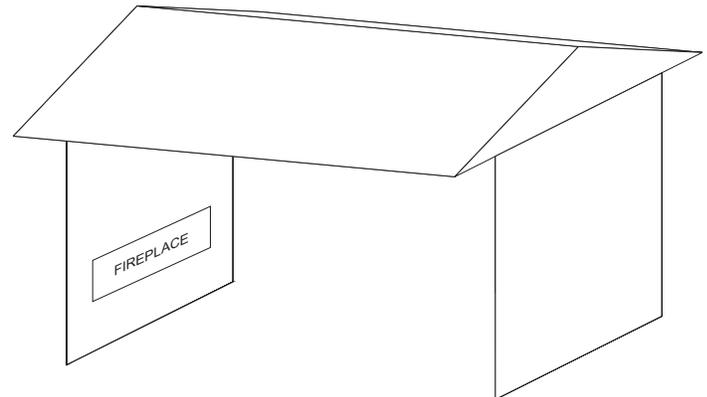

Figure 6
- Within a partial enclosure which includes an overhead cover and no more than two side walls. These side walls may be parallel, as in a breezeway or at right angles to each side. See Figure 6.